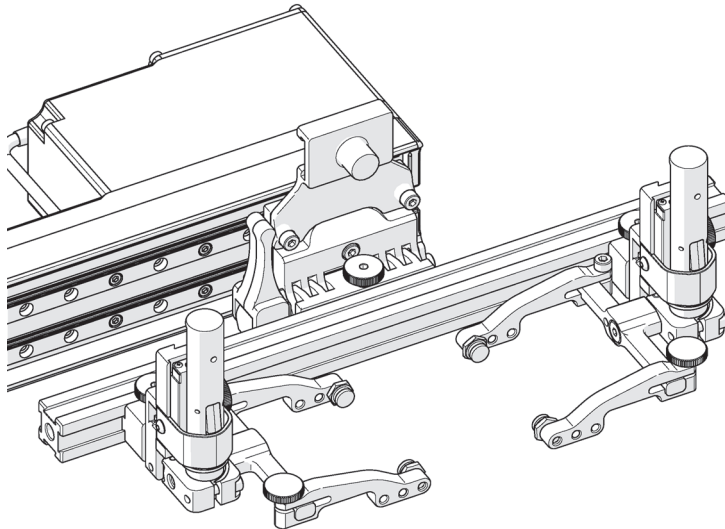

Figure 2-104 Mount dual probe holders
6. Follow the steps in “Probe Holder Setup” on page 91 to mount and set up the vertical probe holders (see Figure 2-104 on page 125).